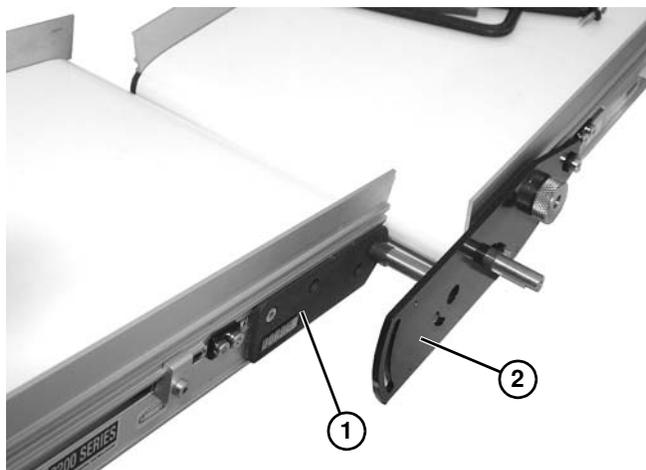

Figure 18
5. Install drive conveyor tension end (Figure 18, item 1) onto series drive plate (Figure 18, item 2).